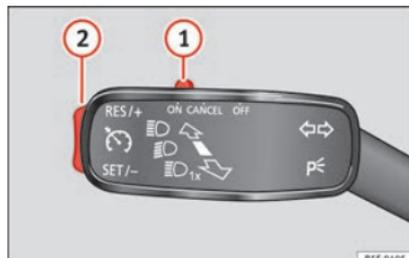

Fig. 170 Turn signal and main beam headlight lever: switch and rocker switch for the cruise control.
- Move the switch **»» Fig. 170 ①** towards the left to **ON**.
- Briefly press the lower part of the rocker switch **SET-** **»» Fig. 170 ②** once when you have reached the speed you wish to set.
- Press the upper part of the rocker switch **RES+** **»» Fig. 170 ②** to increase the speed. The vehicle will continue to accelerate as long as you keep the rocker switch pressed. When you release the switch, the new speed is stored.
- Press the lower part of the rocker switch **SET-** **»» Fig. 170 ②** to reduce the speed. The
Cruise control is switched off if you reduce speed by depressing the brake pedal. Reactivate the control by pressing once on the upper part of the rocker switch **RES+** **»» Fig. 170 ②**.
- when the lever **①** is moved in the direction of **OFF** without being fully engaged. **»»**
To resume cruise control, release the brake or clutch pedal or reduce the vehicle speed to less than 180 km/h (112 mph) and press once on the upper part of the rocker switch RES+ » Fig. 170 ②.
The system is **completely turned off** by moving the control » Fig. 170 ① all the way to the right hand side (set into the OFF position), or when the vehicle is stationary, switching off the ignition.